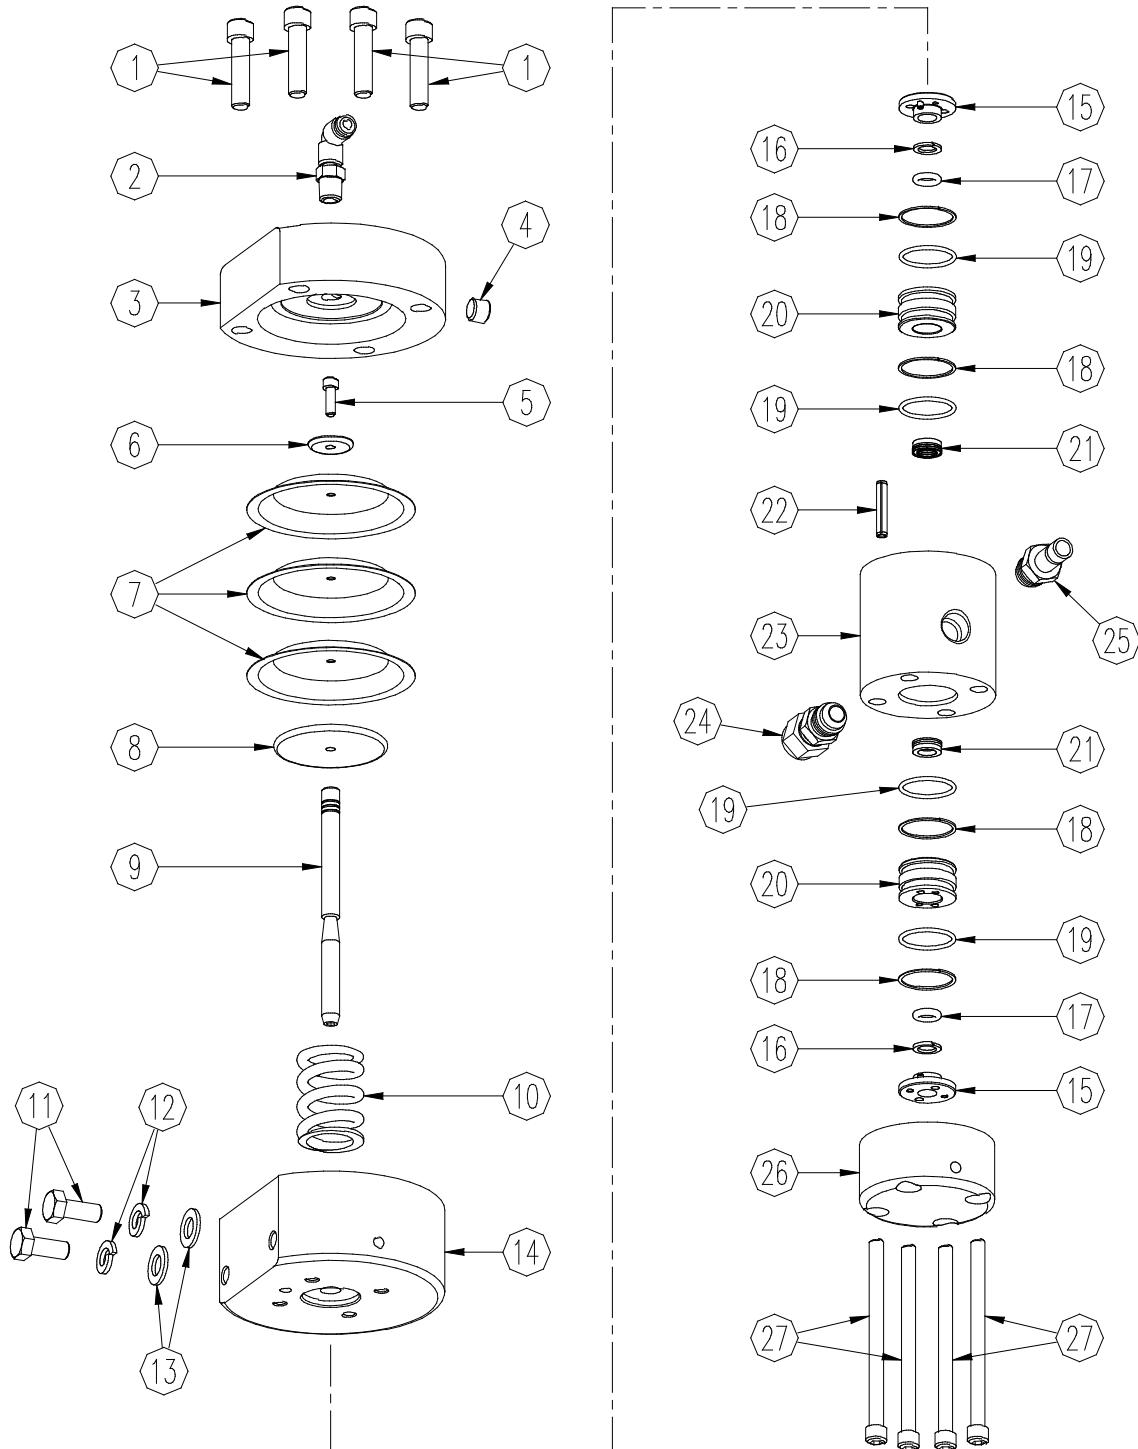

Figure 3: Weepless Mvr Assembly
2. Now assemble the (3) TR-SSMM-151, diaphragms, onto the 8301-16C, cap screws, and then place the TR-SSF-505, large washer, on top of the diaphragms.
3. Apply a small drop of 7969-031, adhesive (blue), onto the cap screw and assemble onto the 76623-xx, needle. Tighten the needle using the appropriate Allen wrenches. For exact assembly detail, see Figure 3.
- ▶ The weep hole in the 76622, bottom housing, must be aligned as shown in Figure 3.
WEEPLESS MVR ASSEMBLY - PARTS LIST (Figure 3)